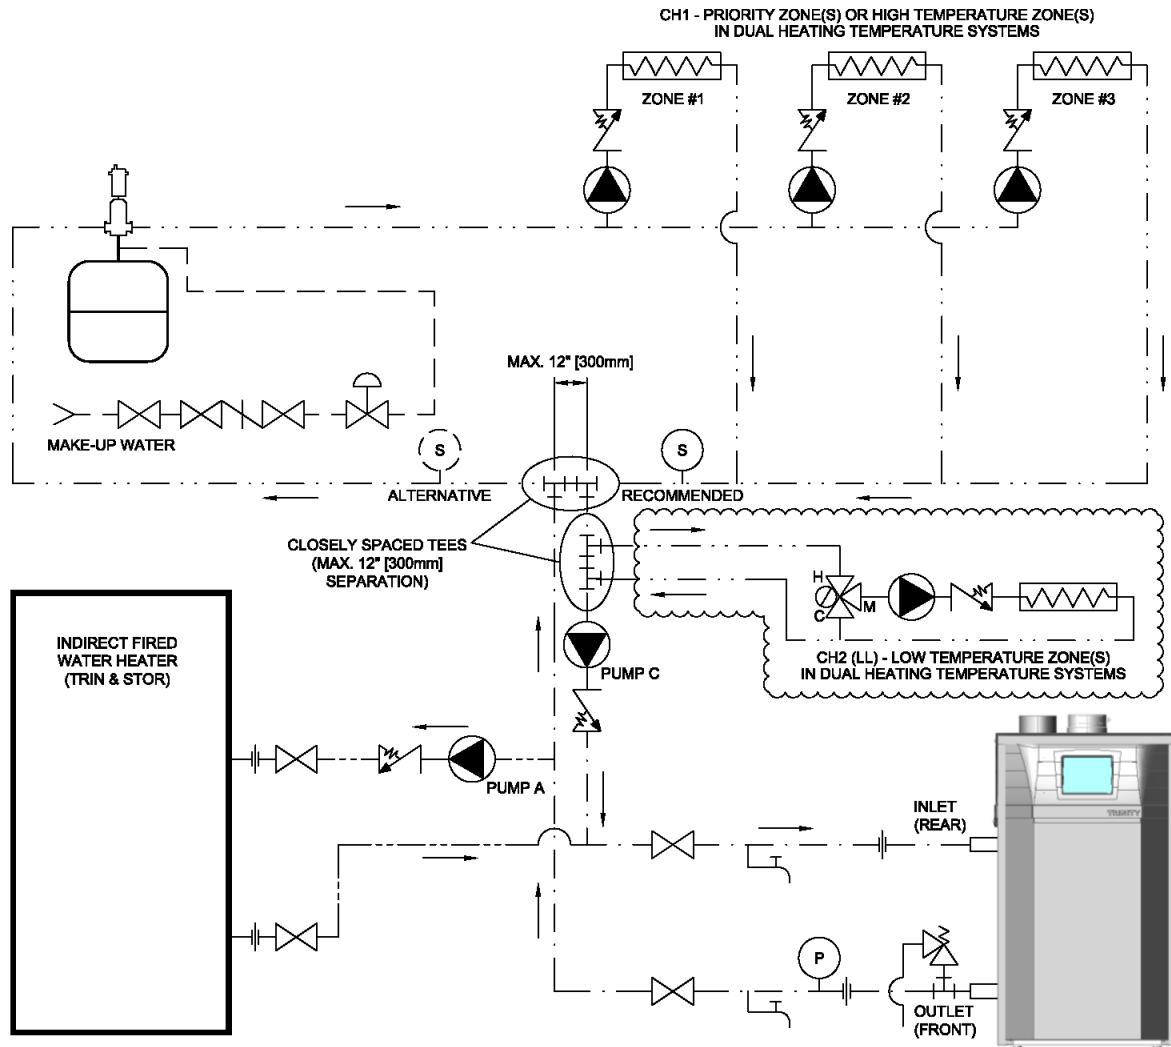

**Figure 10-2 Primary / Secondary Plumbing**
The Trinity Lx boiler uses a low mass heat exchanger that requires a minimum rate of forced water circulation any time the burner is operating (See Table 10-4 for minimum flow rates). To ensure the minimum flow rate is attained, the boiler must be installed in a “Primary/Secondary” plumbing configuration utilizing “Closely Spaced Tees” to de-couple the Boiler-Primary loop from the System-Secondary loop(s) (see Figures 10-2 and 10-3 for examples). As well as a Primary/Secondary Loop Configuration utilizing closely spaced tees, a properly installed system will as a minimum include the major components in Table 10-3.
<input type="checkbox"/> Pressure Relief Valve 1	<input type="checkbox"/> Boiler Loop Circulator (Pump B in Figure 10-2 or Pump C in Figure 10-3)
<input type="checkbox"/> Pressure Gauge	<input type="checkbox"/> DHW Loop Circulator (Pump A in Figure 10-2 and Figure 10-3, for applications utilizing Indirect Fired Water Heater only)
<input type="checkbox"/> Flow Switch (Lx500-800 only)	<input type="checkbox"/> Central Heat (CH) Loop Circulator(s) (CH Circulator - Pump C in Figure 10-2; Zone Circulators in Figure 10-3)
Ensure pumps are oriented as per the manufacturers’ instructions. Wiring of these circulators will depend on the system configuration chosen; see Figures 10-2 and 10-3. For further wiring details see Section 12.0.
Circulators responsible for forcing the water flow rate through the boiler must be sized according to Table 10-4, see Figures 10-2 and 10-3 for details.
**Expansion Tank** – The expansion tank must be sized in accordance with the water volume of the system as well as the firing rate of the boiler. It is important to locate the expansion tank, and make-up water fill, on the inlet side of any circulator in the system, as doing so will guarantee the lowest pressure in the system will be at least equal to the tank and make-up water pressure. See examples in Figures 10-2 and 10-3.
The installation of flow checks, motorized valves or other shutoff devices (other than for the purpose of servicing) are not permitted between the location of the “Closely Spaced Tees” and the expansion tank; see Figures 10-2 and 10-3.
**Figure 10-2: Single System Circulator Configuration** - Often used in applications zoned with “Zone Valves”. During a demand for central heat, the boiler energizes the System Circulator via the Central Heating (CH) pump output (PUMP C). The System Circulator must be sized to provide adequate circulation throughout the heating system. During a Domestic Hot Water (DHW) demand, the boiler de-energizes the System Circulator (PUMP C) and energizes the DHW Circulator (Pump A). With this configuration the Boiler Circulator is the only pump that causes flow through the boiler and it is powered during any demand via the boiler pump output (PUMP B). This circulator must be sized according to Table 10-4.
Figures 10-2 and 10-3 illustrate typical piping systems. These piping schematics do not illustrate all of the required concepts and components required to have a proper installation. Concepts not shown include: prevention of thermal-siphoning (heat traps), isolation valves, drain and purge valves, etc. It is the responsibility of the installing contractor and system designer to determine which system best meets the need of the installation and to consider all aspects of a proper system design. Contractor modifications to these instructions may be required, based upon existing piping and system design.